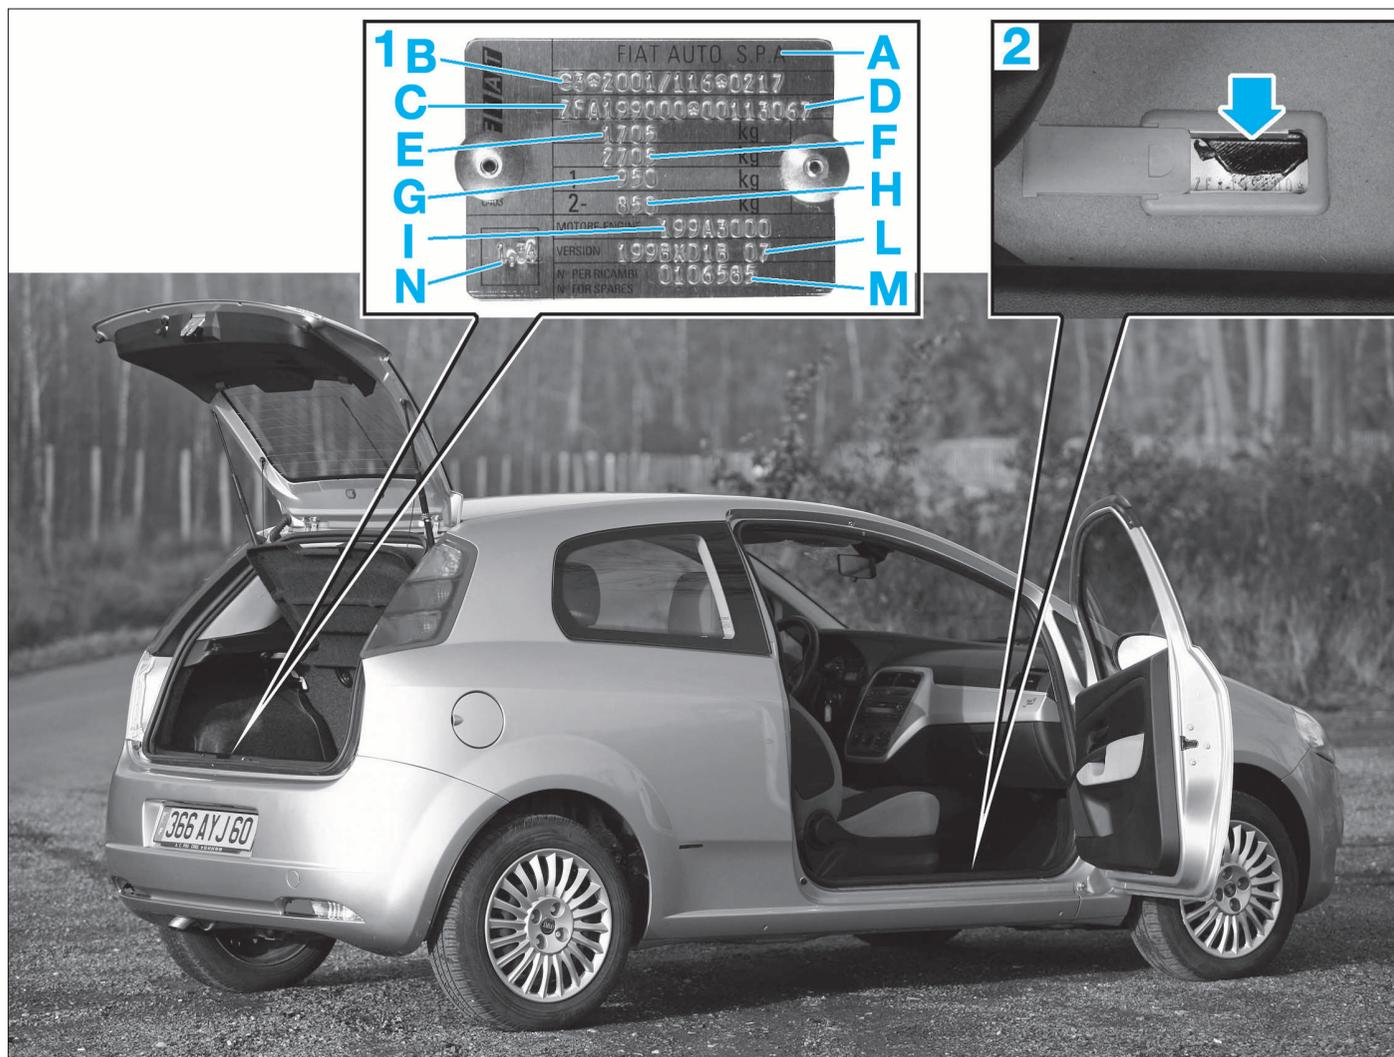

FIG.1
PLAQUE CONSTRUCTEUR (1) (FIG.1)
NUMÉRO D'IDENTIFICATION (2) (FIG.1)